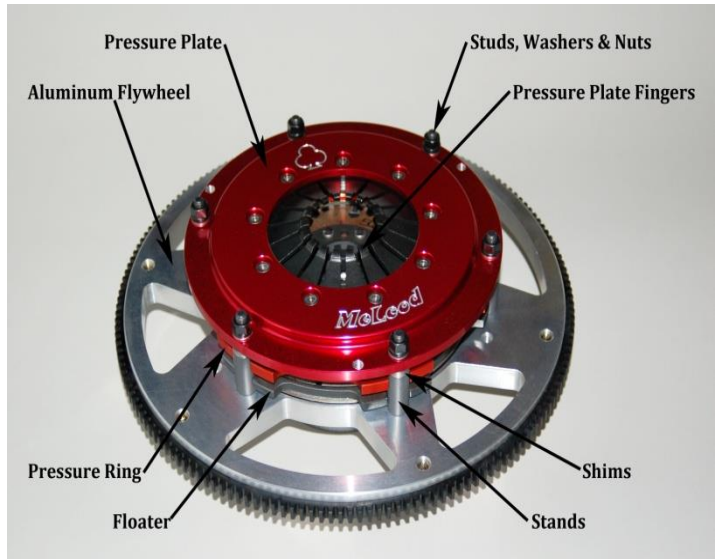

Figure 7
- 10) **Pressure Plate tightening sequence is critical at this point.** Tighten pressure plate nuts to 25 ft/lbs in a star pattern (1 o'clock, 7, 3, 9, 5, 11). Place a straight edge onto the pressure plate across the fingers. When the nuts are properly tightened, the fingers will just contact the bottom of the straight edge. See Figure 7.